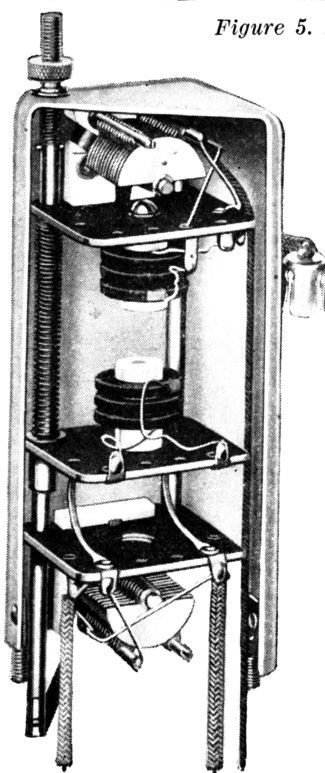

Figure 6. Cutaway view of i-f transformer.
- (3) Transformer parts (fig. 6).
- (4) Crystal assembly contact points, shafts, and bearings.
- (5) Switches, mountings, and shafts.